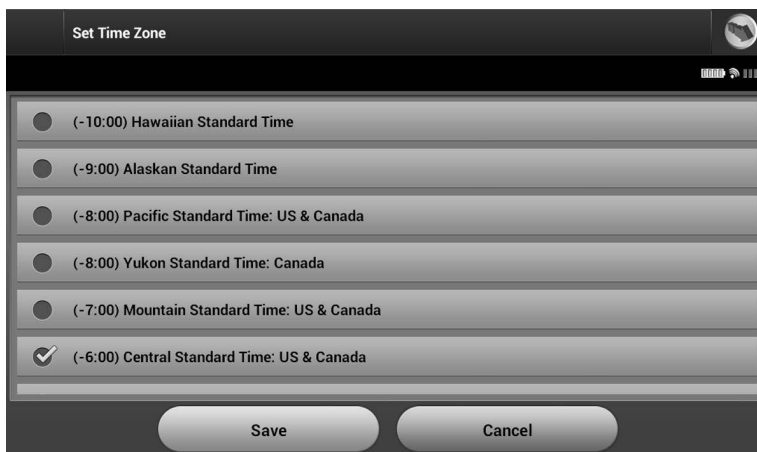

Figure 9: *Time Zone selection screen (scrollable list)*
1. Select Set Time Zone on the Programmer Settings screen. The time zone selection screen appears (Figure 9).